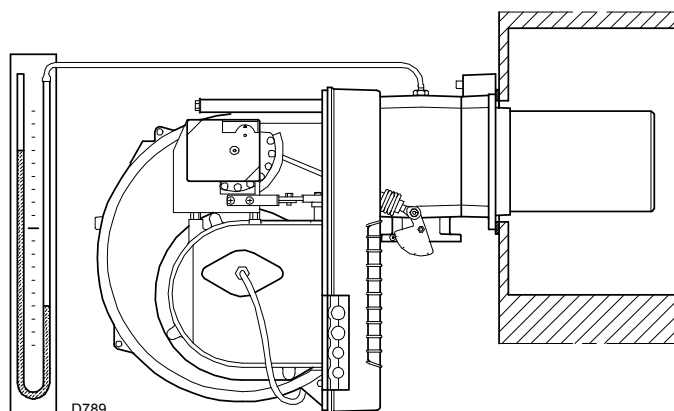

Fig. 25
- Adjust the air pressure switch to the start of the scale (Fig. 25).
- Fit a U-type pressure gauge (Fig. 25) to the gas pressure test point on the pipe coupling. Used to roughly calculate MAX burner output using the tables on page 18.
In this case increase gas ignition delivery. The arrival of gas at the pipe coupling is indicated by the U-type pressure gauge (Fig. 25 on page 21).
A rough indication can be obtained from on page 18, just read the gas pressure on the pressure gauge see Fig. 25 on page 21, and follow the indication given in on page 18.